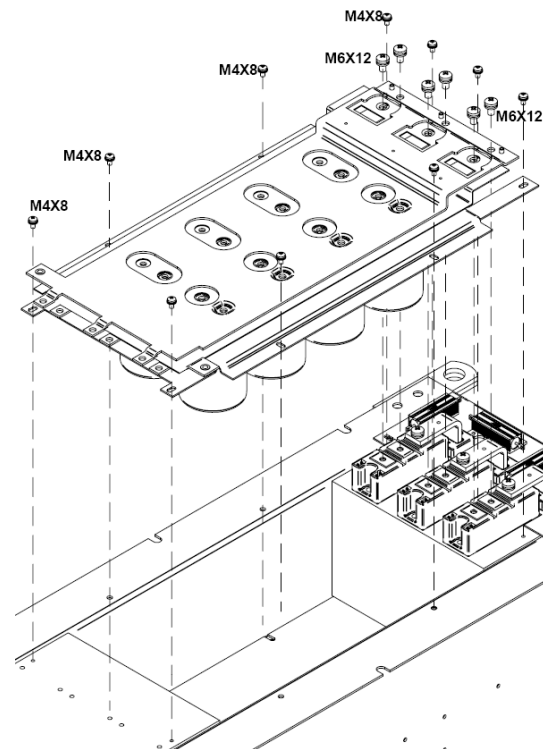

Figure 3.15. Disassembly of the DC Bus (c)
- 8) Place the snubbers capacitors on the back part of DC Bus (figure 3.15) by screwing the Phillips screws **M6x12** DIN-7895H .